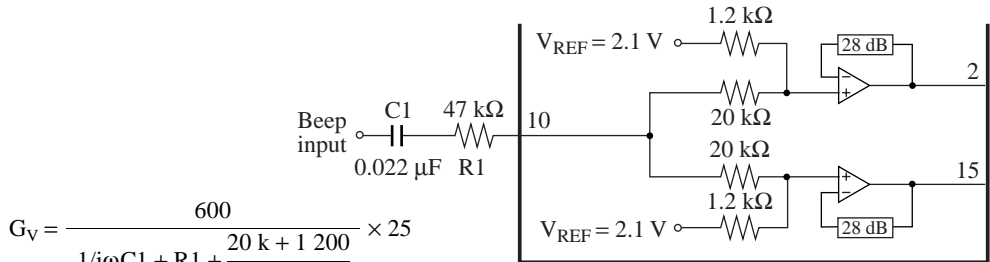

Figure 7
4) Attack time and recovery time can be changed by the external CR of pin 7. For recommended circuits (figure 7. 4.7k Ω , 10 μF), the above mentioned times are as follows :
- 1) The application circuit using the beep sound input is shown in figure 7. Connect the beep signals from the microcomputer to pin 10 via the capacitor C1 for DC cut and the resistor R1 for voltage gain adjustment.